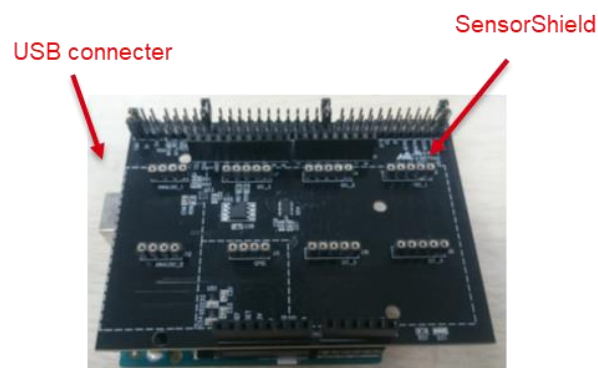

Figure 2. Connection between the Arduino and the SensorShield
1. Connect the SensorShield to the Arduino (Figure 2)